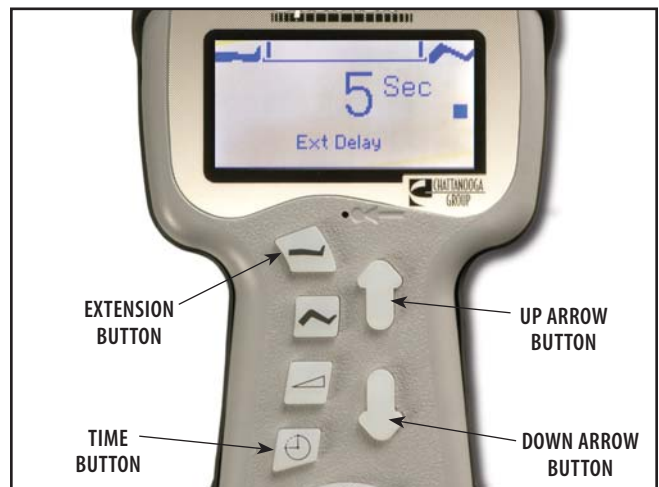

FIGURE 5.2
5. Press and hold the Time and Extension buttons. While holding the Time and Extension buttons, press the Up or Down Arrow button until 5 Sec is displayed on the Pendant. **Refer to Figure 5.2.**